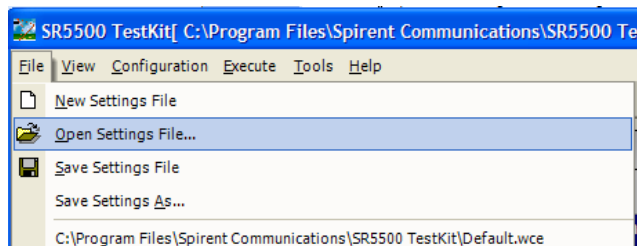

Figure 1-14: SR5500 TestKit – Open Settings File
2. Select **File>Open Settings File**, as shown in Figure 1-14.